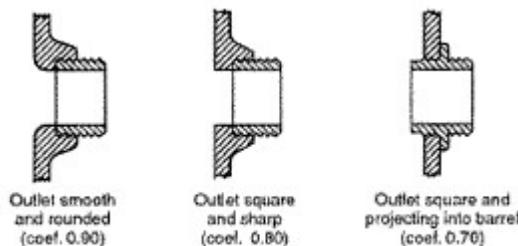

FIGURE 4.7.1 Three General Types of Hydrant Outlets and Their Coefficients of Discharge.
- a. At the hydrants used for flow during the test, the discharges from the open butts are determined from measurements of the diameter of the outlets flowed, the pitot pressure (velocity head) of the streams as indicated by the pitot gauge readings, and the coefficient of the outlet being flowed as determined from Figure 4.7.1
c = coefficient of discharge (see Figure 4.7.1)